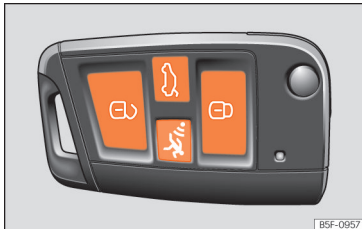

Fig. 4 Remote control key: keys.
- Locking: press the button  »» Fig. 4.
- Locking the vehicle without activating the anti-theft system: Press the button for a second time  »» Fig. 4 within 2 seconds.
- Unlocking: press the button  »» Fig. 4.
- Unlock the trunk lid: hold down the  »» Fig. 4 button for at least 1 second.
To lock/unlock, press the button  or button  »» Fig. 4 on the remote control key.